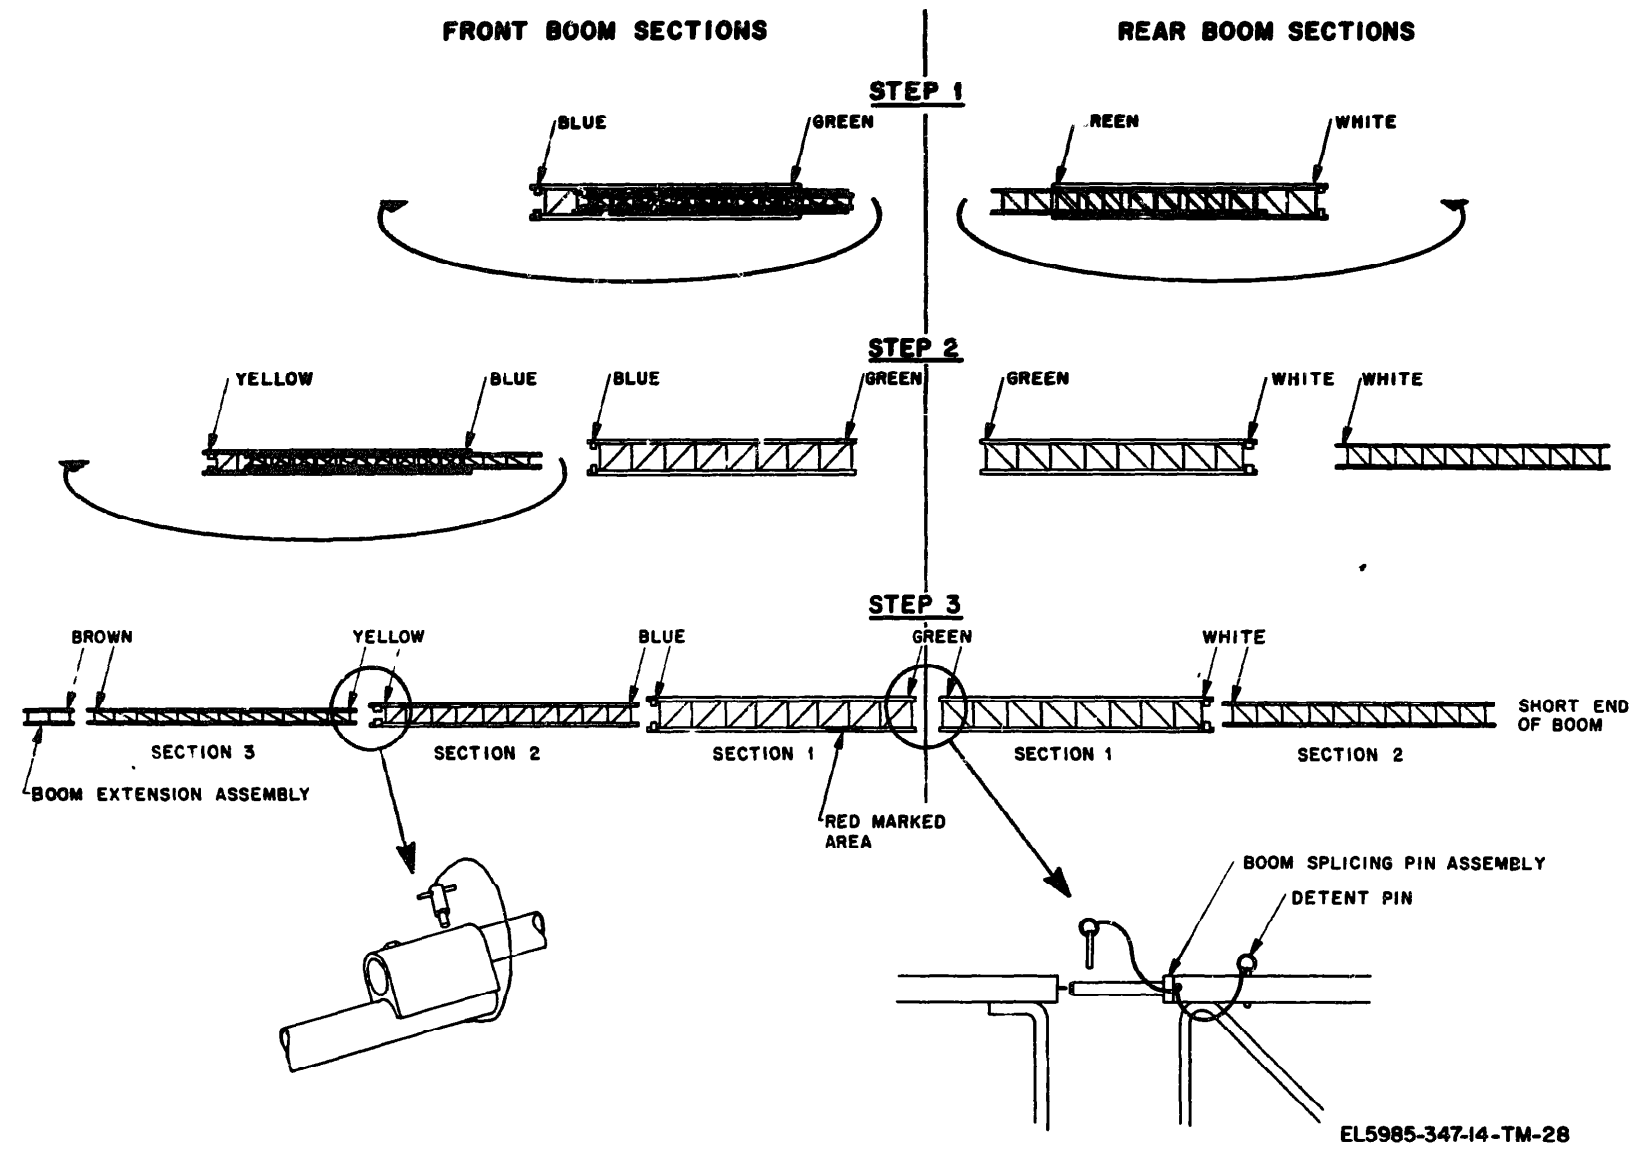

Figure 2-31. Assembly of antenna boom sections.
will be removed from the crate. Assemble section 1 of the front boom and section 1 of the rear boom using the boom splicing pin assembly, as shown in figure 2-31. The red-marked region on this middle section indicates the position where the boom is attached to the hinge plate.
f. Assemble the remaining boom sections as shown in figure 2-31. A color coding mark has been applied to the top leg of each boom section. The end of each boom section should be assembled exactly as shown in figure 2-31. These boom legs must all match so that when the tower is completely assembled, all the top legs will be marked with the appropriate color code marking.